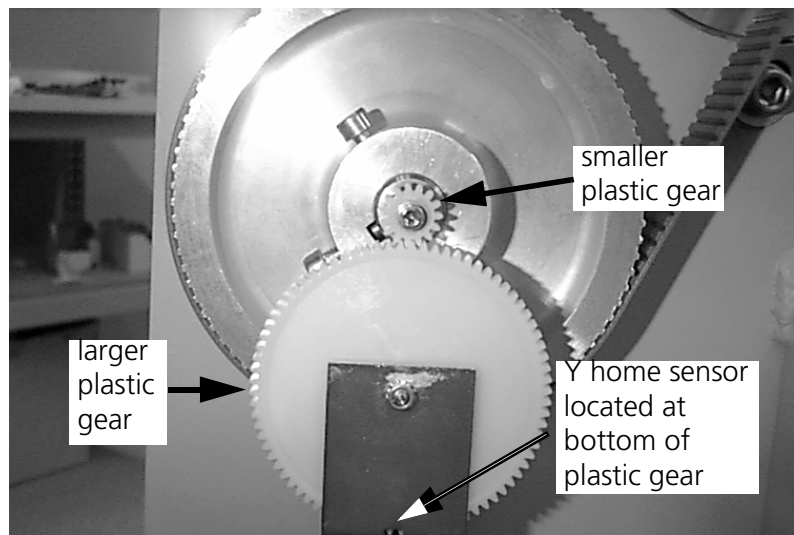

Figure 6-7
1. To adjust Y Home position, carefully grasp the larger plastic gear shown in Figure 6-7 and disengage its teeth with the teeth of the smaller plastic gear.